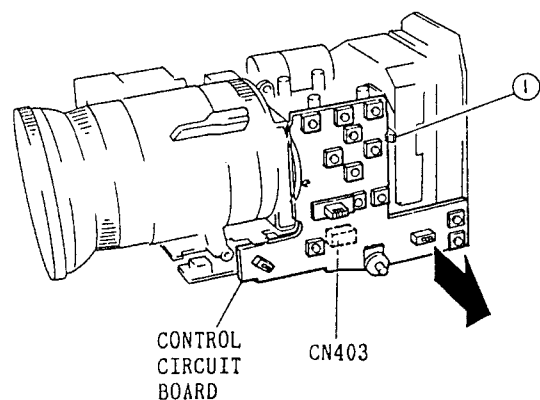

Fig. 2-22
1. Release one (1) tab, and while disconnecting connector CN403 from the titler circuit board, remove the control circuit board in the direction of the arrow. (See Fig. 2-22)
1. Remove the control circuit board. (See Figs. 2-22, 2-23)